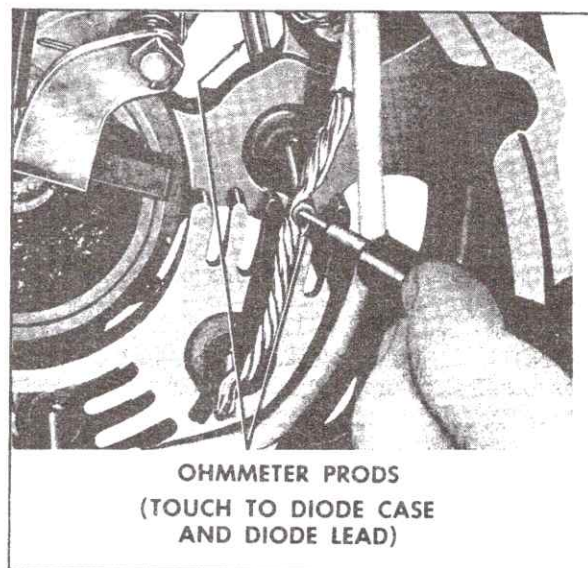

Fig. 6-61 Diode Checking
2. Connect Test Light, J-21008, leads across each diode, first in one direction and then in the other, Fig. 6-61.
Diodes may also be checked for defects with an ohmmeter as shown in Fig. 6-61. To check each diode, connect one of the ohmmeter leads to the diode case, and the other ohmmeter lead to the diode lead, and note the ohmmeter reading. Then reverse the ohmmeter lead connections and note the reading. Ohmmeter readings may vary considerably when checking diodes, but if both readings are 300 ohms or less, the diode is defective. Also, if both readings are greater than 300 ohms, the diode is defective. A good diode will give one low and one high reading. When checking each diode, push and pull on the diode lead to catch loose connections, and use an ohmmeter with a scale on which the 300 ohm value can be accurately read.